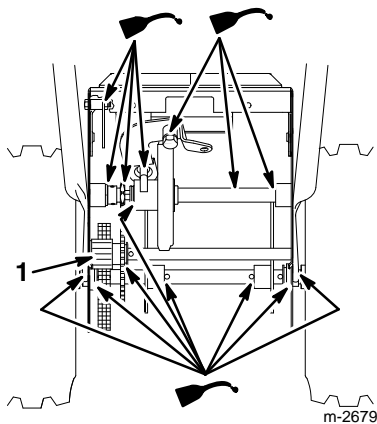

Figure 34
5. Lightly lubricate the snowthrower with light oil as shown in Figures 34 and 35.
7. Lightly grease the axle gear (Fig. 34).